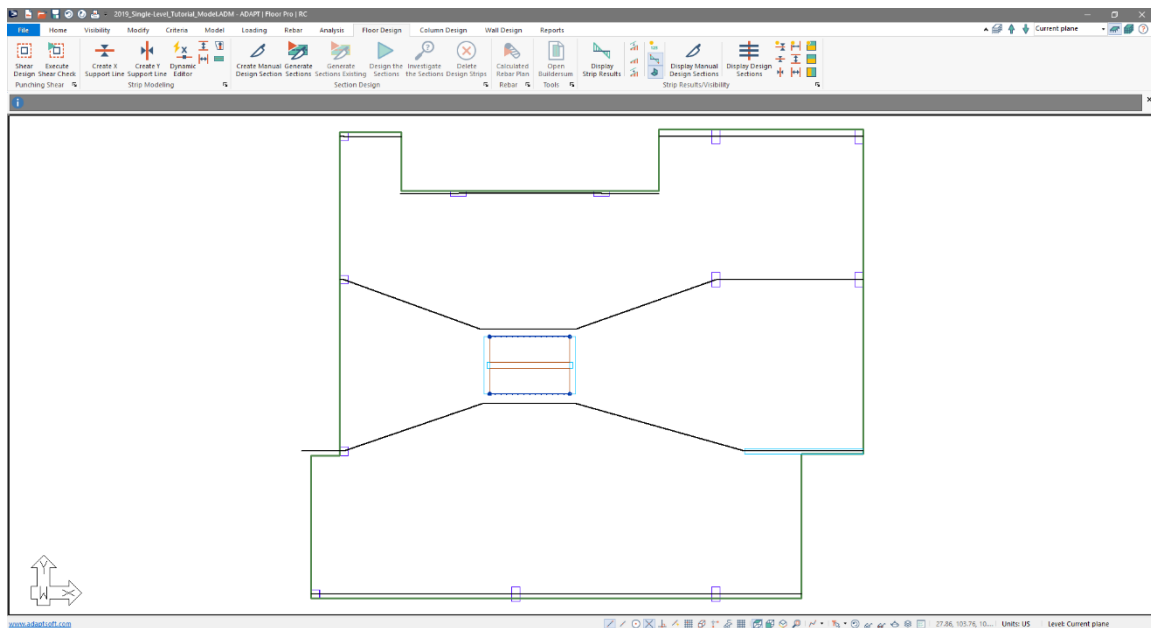

Figure 6-16
- Click on the *Top View*  icon in the **Bottom Quick Access Toolbar**. This will bring you to the view of the model shown in **FIGURE 6-16**.